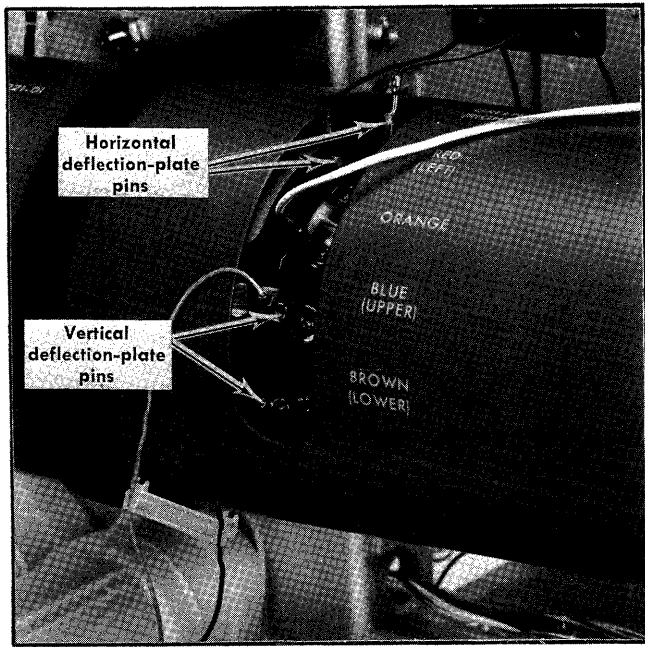

Fig. 5-9. Location of vertical and horizontal deflection-plate neck pins.
a. Connect the DC voltmeter (set to 300-volt scale) between the two vertical deflection-plate neck pins (BLUE and BROWN leads; see Fig. 5-9). Do not short to the CRT shield.
d. Connect the DC voltmeter (set to 300-volt scale) between the two horizontal deflection-plate neck pins (GREEN and RED leads; see Fig. 5-9).